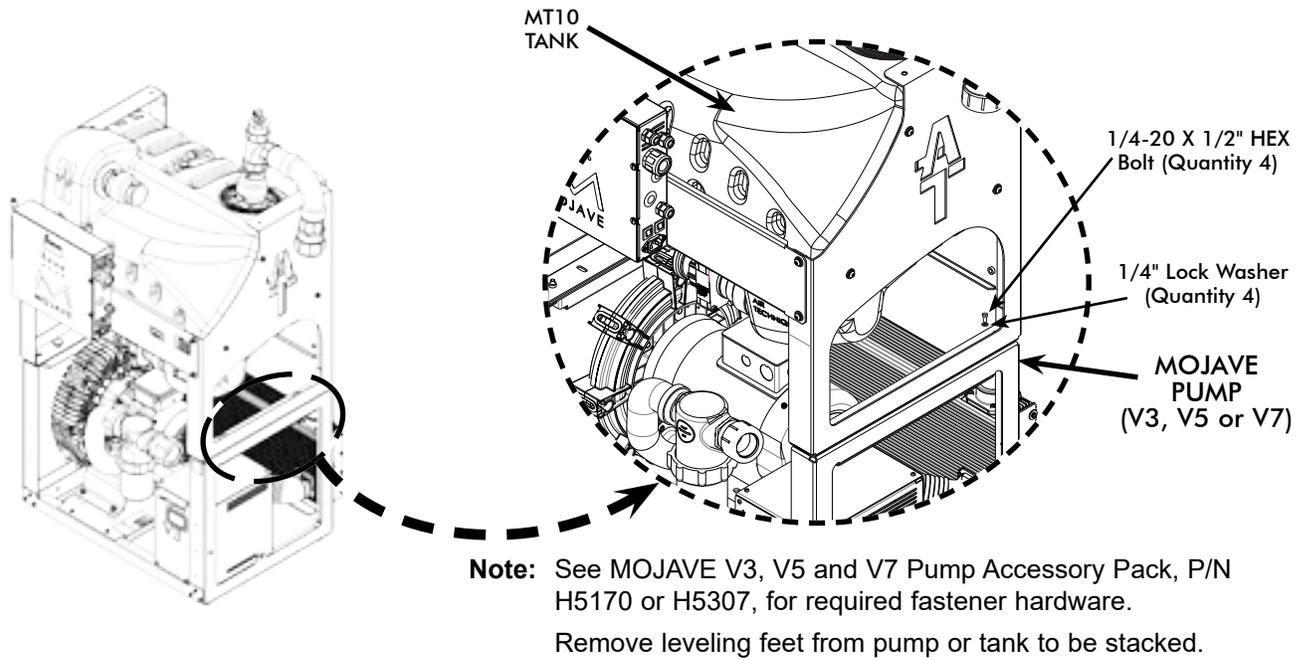

Figure 6. Stacking the MT10 Tank on Top of a MOJAVE Pump Hardware Detail
- Secure the MT10 Tank on top of the associated **MOJAVE** pump as shown by Figure 6.
3. When stacking the MT10 tank on top of a pump, refer to Figure 6 and secure the tank to pump using hardware supplied by the Pump Accessory Pack, P/N H5170 or H5307.